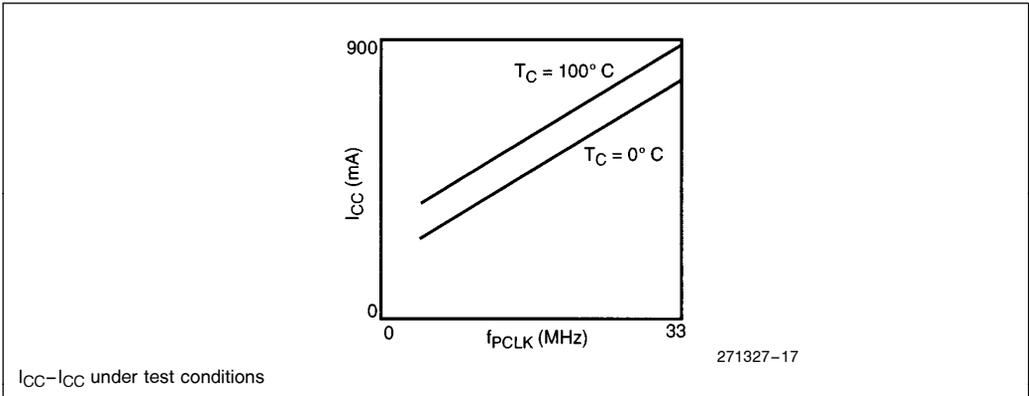

Figure 17. I_{CC} vs Frequency and Temperature
- See Figure 17 for capacitive derating information for rise and fall times.